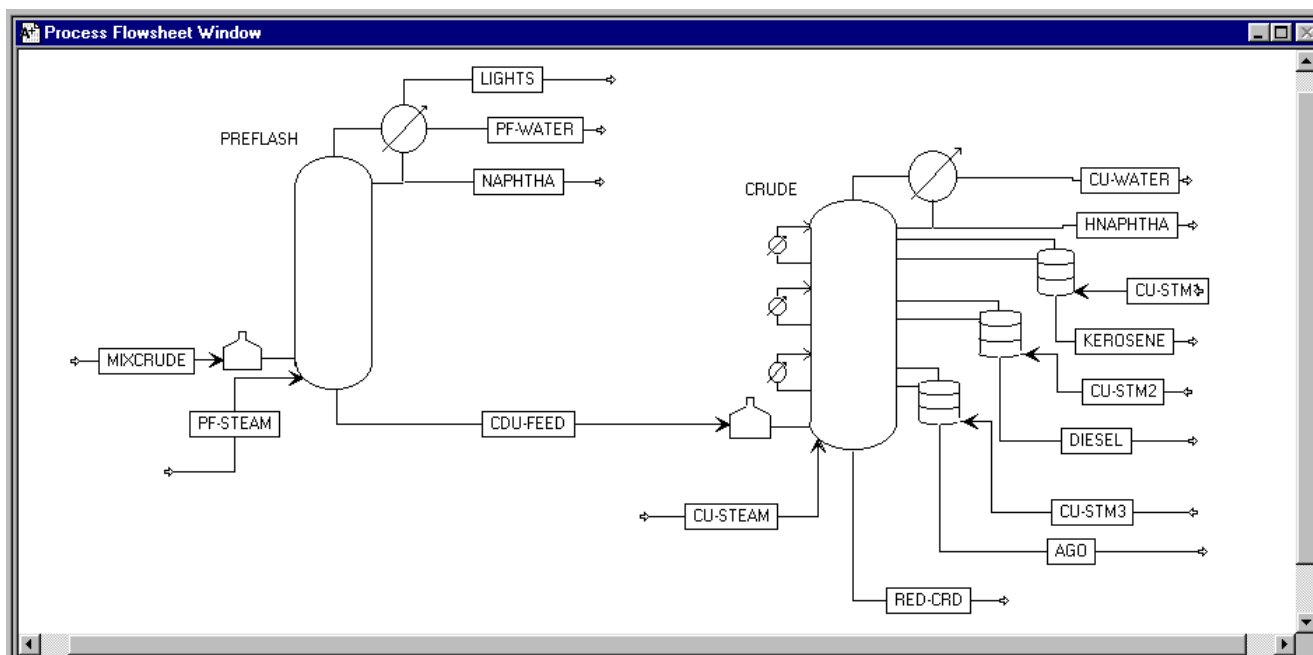

Figure 3.1 *Process Flowsheet: The Atmospheric Crude Distillation Unit*
Figure 3.1 shows the process flowsheet you will develop in this session. The topped crude from the preflash tower goes first to the crude furnace, then to the atmospheric tower. You will model the crude furnace and the atmospheric tower units together, using a single PetroFrac block. This approach enables you to adjust furnace variables to achieve certain tower specifications, such as the overflash. The tower has:
- Press and hold the left mouse button within the region and drag the flowsheet to the left, to make room for the crude distillation unit, as shown in Figure 3.1.
- Place the CDU10F icon in the flowsheet, as shown in Figure 3.1. Name the block **CRUDE**.
- Connect, move, and name the streams as shown in Figure 3.1. Use the port names in Table 3.1 to help you connect to the appropriate port.